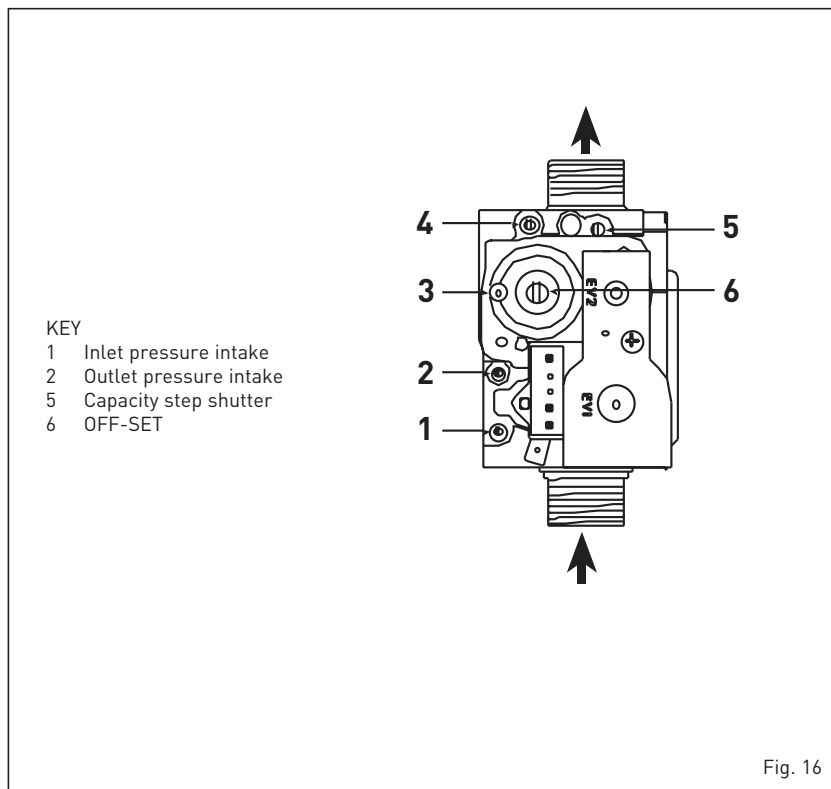

Fig. 16
With the boiler operating in the maximum rate condition check that the operational (working) gas pressure at the inlet gas pressure test point (see fig 16 item 1) complies with the requirements of table 1.3.
If the combustion reading is greater than the acceptable value AND the integrity of the complete flue system, combustion circuit seals have been verified, AND the gas inlet pressure has been verified, AND the boiler parameter settings are correct, proceed as shown in 4.2.2. Any adjustments should be done in small steps and adjustments of no more than 1/8th of a turn should be made, waiting at least 1 minute between adjustments to allow the settings to stabilise. Using the CO₂ reading, adjustments should be made to the "OFF-SET" screw (6 fig 16) if it is incorrect at the minimum output, or to the "SHUTTER" (5 fig 16) if it is incorrect at the maximum output.
4.1 GAS VALVE (fig. 16)
The boiler is supplied as standard with the SIT 848 SIGMA gas valve (fig. 16).
- 3) Identify the CO₂ values at max. power by adjusting the shutter (5 fig. 16):
- 5) Identify the CO₂ values at min. power by adjusting the OFF-SET regulation screw (6 fig. 16):